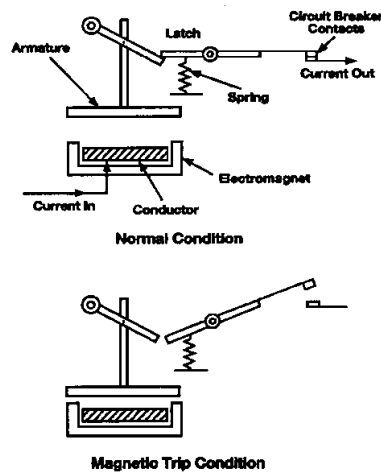

Figure 2
**Magnetic Trip:** The magnetic (instantaneous) trip element uses an electromagnetic assembly to trip the circuit breaker instantaneously (with no intentional delay) at or above a predetermined current value. During a short circuit of sufficient magnitude, the high-level current passing through the conductor rapidly increases the magnetic field of the electromagnet which attracts the armature. As the armature is drawn toward the electromagnet, it initiates an unlatching action and opens the circuit breaker contacts. (See Figure 2.)